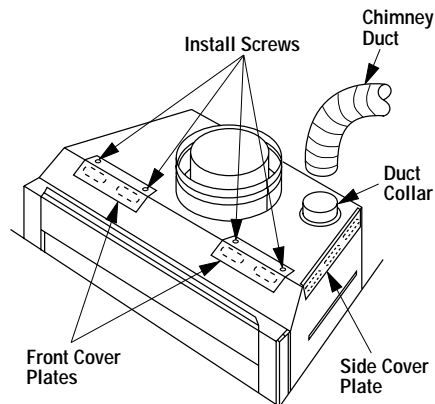

Figure 18
Step 5. Install the Cold Climate Kit to the fireplace following the instructions provided with the kit, (Figure 18).